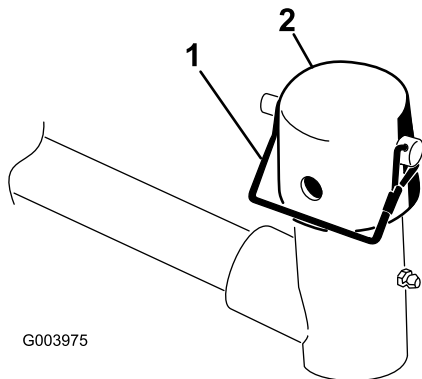

Figure 9
7. Remove the snapper pin and the cap from the lift arm pivot yoke (Figure 9).
11. Secure the cap and the carrier frame shaft to the lift arm yoke with the snapper pin. Use the slot if a steering cutting unit is desired or use the hole if the cutting unit is to be locked in position (Figure 9).